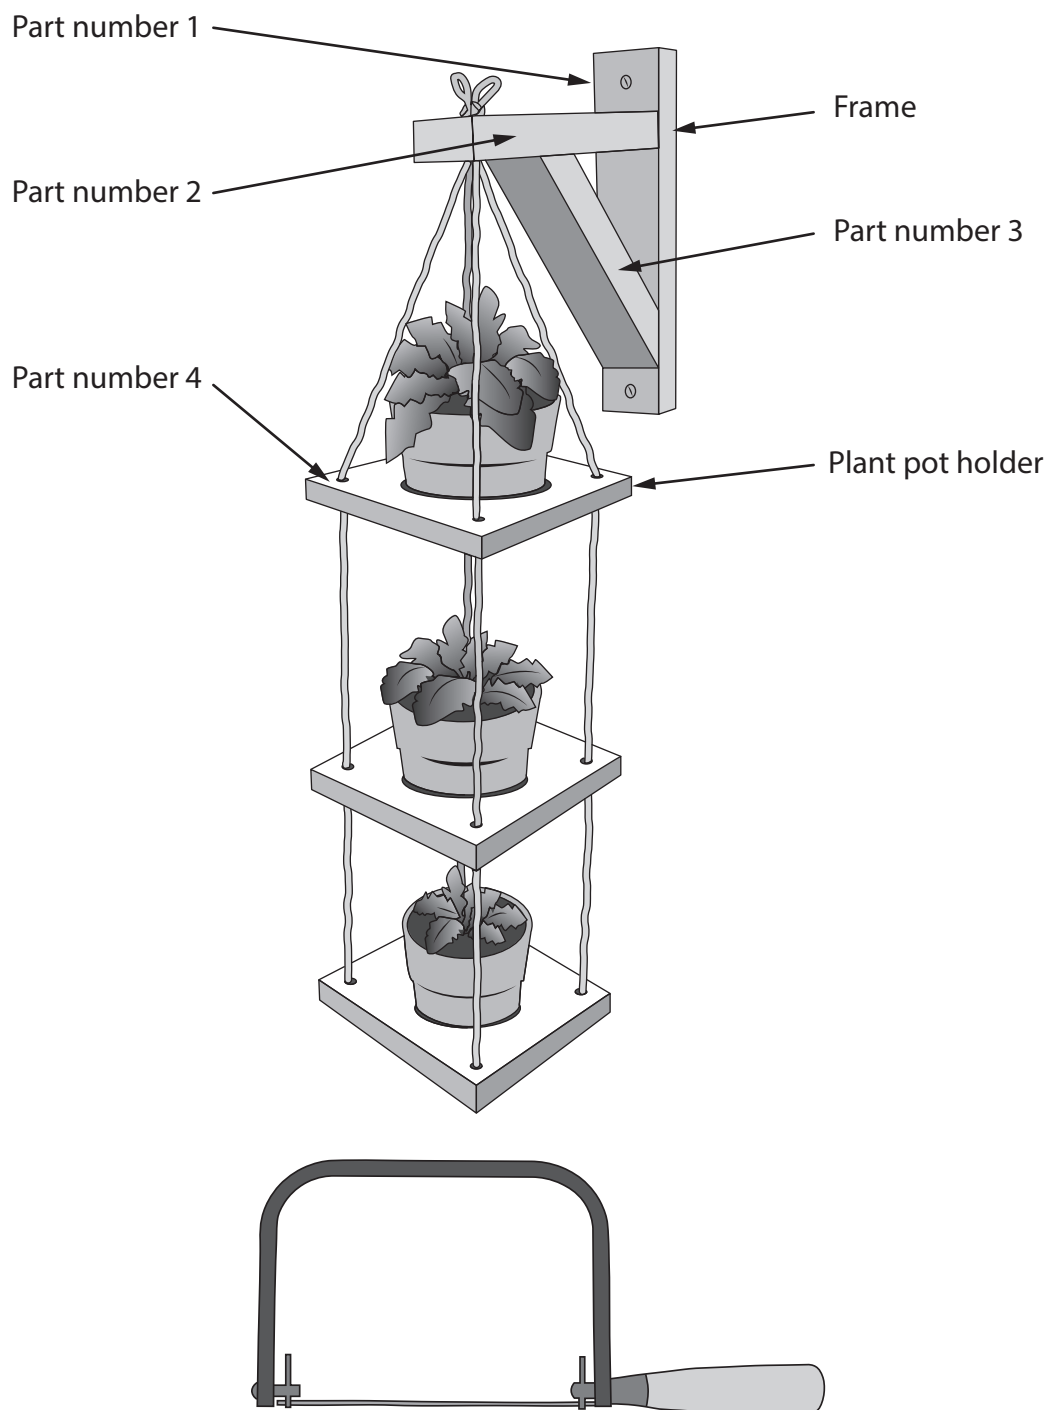

Figure 13
- 7 Figure 13 shows a wall-mounted plant holder and a saw that is used during its manufacture.
- (a) Name the specific type of saw shown in Figure 13.